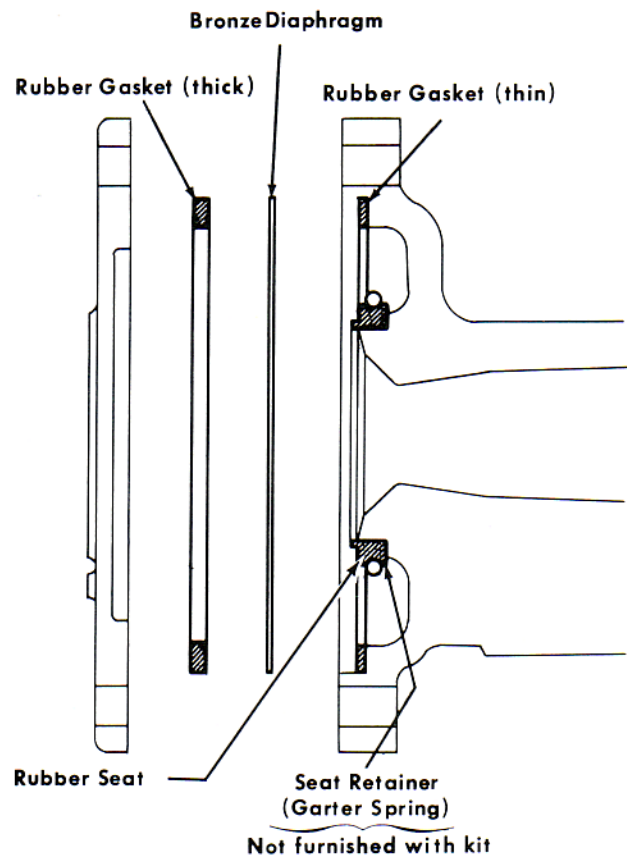

Fig. 6 - Horn Subassembly Kit
NOTE: To insure the proper functioning of the horn, it is important that the rubber seat and the two (2) rubber gaskets be located in the horn assembly as shown in Fig. 6.
- a. Place rubber seat firmly against the small counterbore inside of bell and secure firmly in place with seat retainer (garter spring) 8223338, Fig. 6. This seat retainer is not furnished in the kit and should be ordered separately.